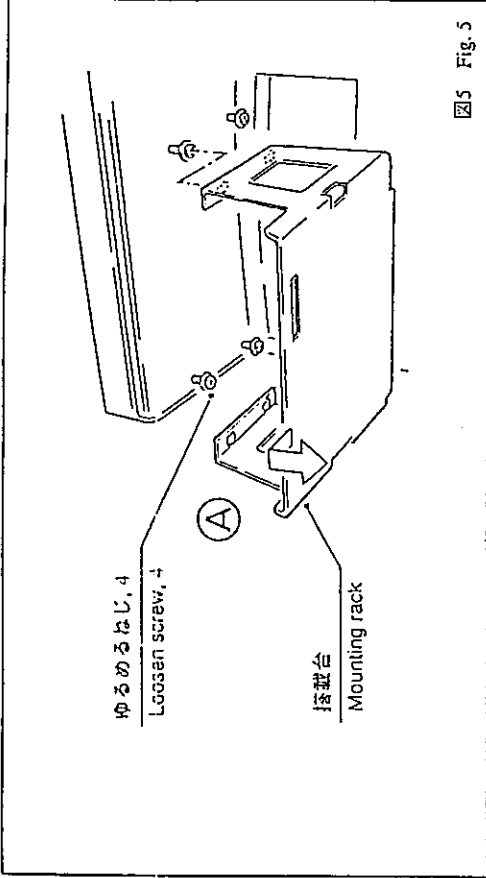

図5 Fig. 5
- (12) SSZ-305搭載台を、ねじ4本をゆるめて取り外す。(図5㊸)
- (12) Unfasten 4 screws and remove SSZ-305 mounting rack. (㊸ in Fig. 5)